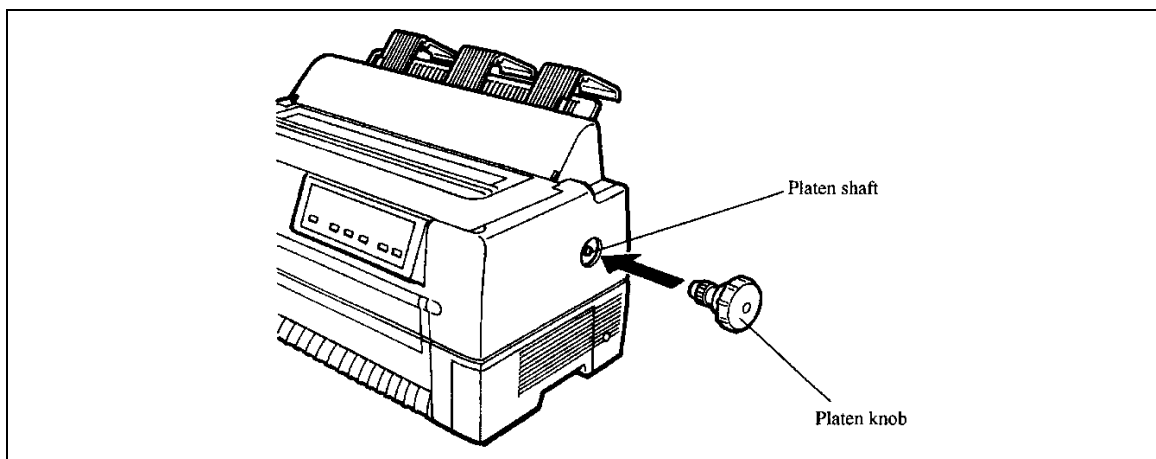

Figure 3-36. Insert the Platen Knob.
(7) Insert the platen knob, aligning it with the gear teeth, as shown in figure 3-36.